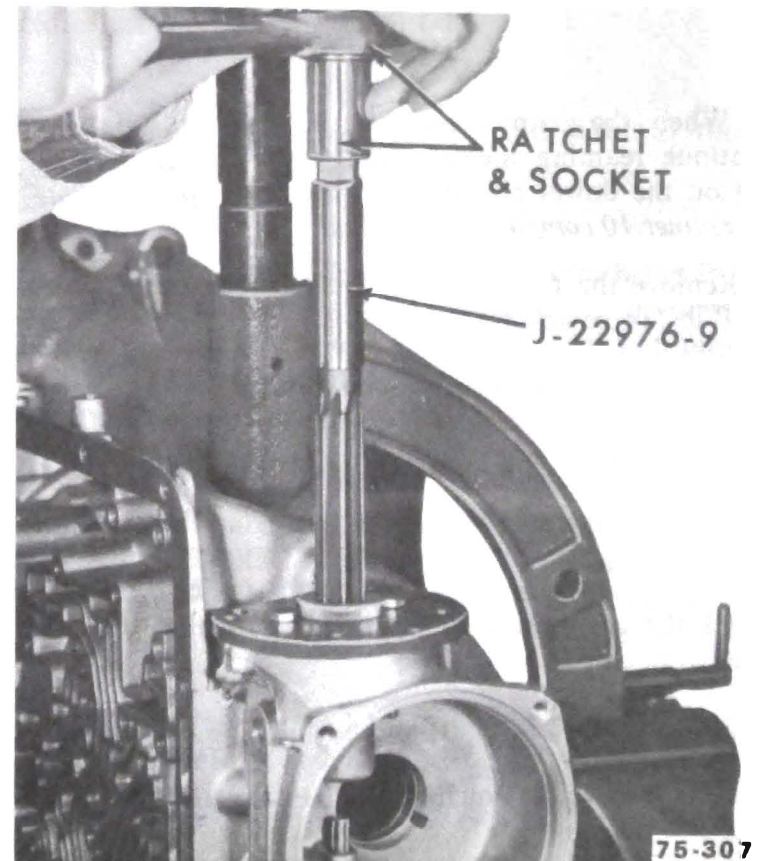

Figure 75-291
b. Use 5-10 lbs. of feeding force on the reamer. See Figure 75-291.